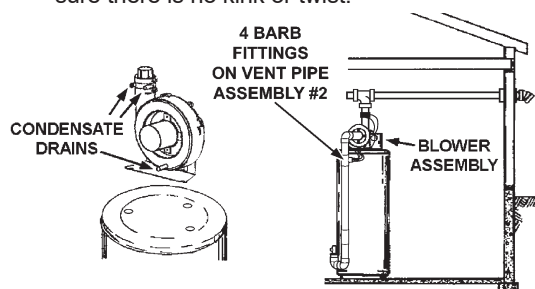

Figure 16. Blower Assembly
3. Condensate drains from three locations on blower assembly. See *Figure 16*. One flexible hose runs from bottom of blower housing; two run from the ports of rubber connector at the outlet of blower. All these three condensate hoses are connected to barb fittings at vent pipe assembly #2. The hose from bottom of blower housing is clamped by two clamps and the two hoses from rubber connector are harnessed by another clamp. Make sure there is no kink or twist.